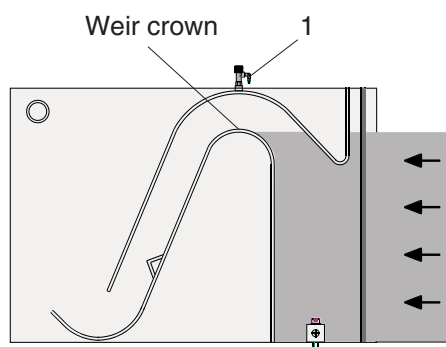

Fig.: 4.3
The siphon weir HM 160.36 has a ventilation valve (Fig.4.3 /1) on its apex which can be opened in order to remove the under pressure of the outlet flow (Fig. 4.2c).
- Set the water level in the upstream water so that the water is slightly below the upper edge of the weir crown (Fig.4.3). Next, close the throttle valve again.